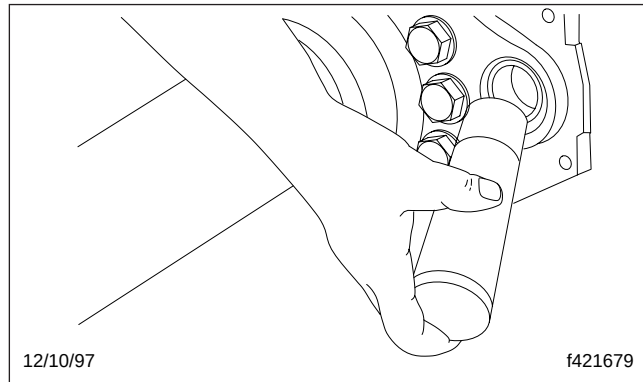
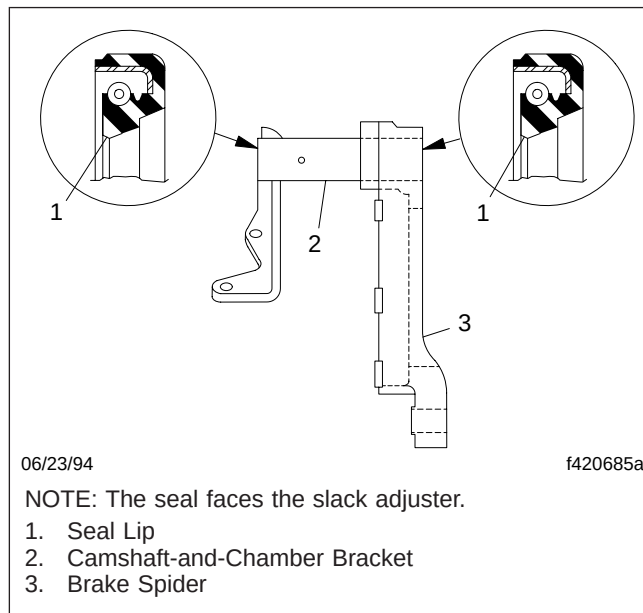

Fig. 10, Installing the Seals and Bushings
Fig. 11, Positioning the Seals
5. Using a seal driver, install the camshaft seals and the new camshaft bushings in the brake spider and slack adjuster ends of the camshaft-and-chamber bracket. See Fig. 10. Install the seals with their lips toward the slack adjuster. See Fig. 11.